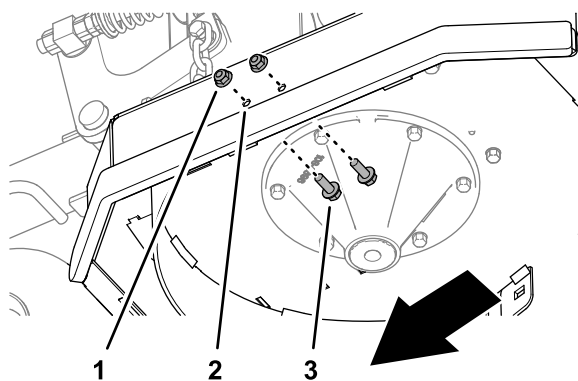

Figure 12
2. Install 2 flange-head capscrews (3/8 x 1 inch) into the 10 mm (3/8 inch) holes in the mower deck (Figure 12) and secure the capscrews with 2 flange locknuts (3/8 inch) that you removed in step 1.